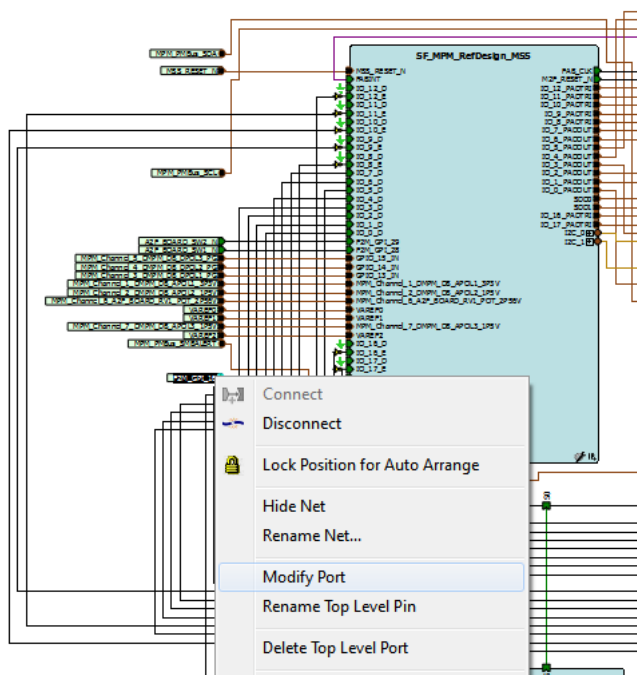

Figure 51 • Selecting Modify Port
5. Right-click the F2M_GPI_16 pin of SF_MPM_RefDesign_MSS and select Modify port as shown in Figure 51. Enter port name as shown in Figure 52 on page 34.